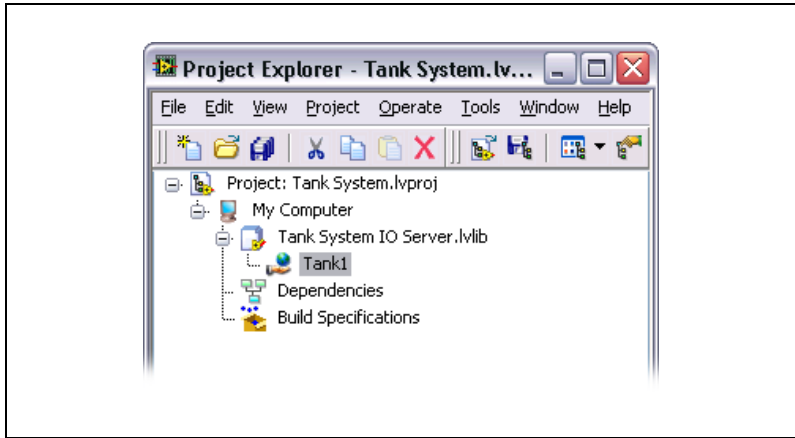

Figure 1. Tank System Project
10. Right-click the **Custom VI – Periodic1** item in the **Project Explorer** window and select **Rename** from the shortcut menu. Rename the periodic I/O server **Tank1**. The **Project Explorer** window appears as shown in Figure 1.